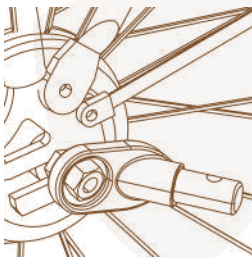

Figure 11
2. Nutted Axle: Unscrew the nut with washer from the left side of the bike's rear axle. Install the hitch onto the axle and screw the nut back on with the washer (Figure 11).